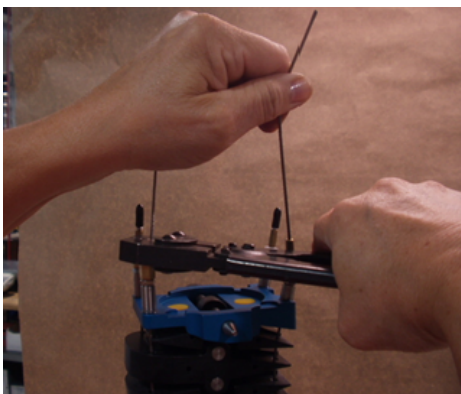

Figure 49 - Crimp Front Damper Ferrule
14. Crimp front ferrule while it and the rear ferrules are touching the adjacent adjuster (Figure 49). Leave both damper adjusters adjusted all the way down.